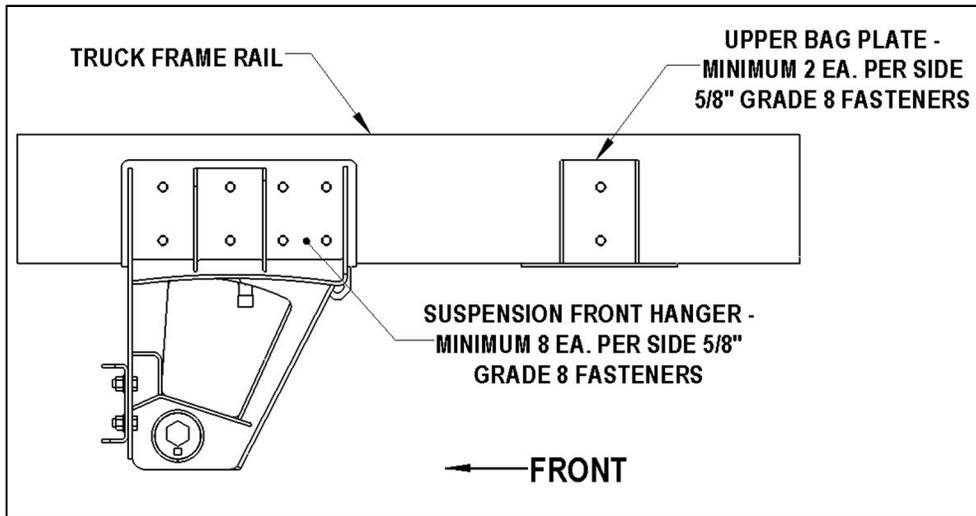

Figure 8
10. Verify the suspension system is properly located, then drill two (2) 0.6875" (11/16")
11. Install 0.625" (5/8") SAE Grade 8 fasteners in each mounting hole, and snug tighten the fasteners. Verify that the bolts protrude through the nuts by at least three (3) full threads.
12. Verify the suspension system is properly located, then drill the remaining mounting holes in the frame brackets. Eight (8) holes minimum are required per frame bracket (See **Figure 8**).